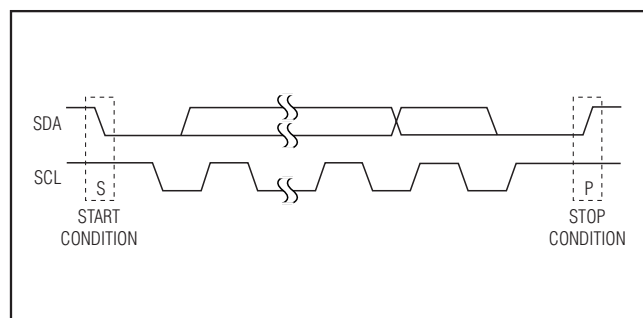

Figure 2. START and STOP Conditions
in a single-master system has an open-drain SCL output. Each communication with the MAX5679 contains a START (S) condition sent by a master, the 7-bit MAX5679 slave address plus a read/write (R/W) bit, an acknowledge bit, a series of data bytes each followed by an acknowledge bit, and finally a STOP (P) condition. Figure 2 shows how each communication is framed by START and STOP conditions.